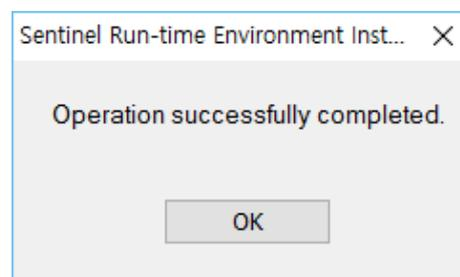

Figure 2.17 Dongle Driver Installation
- If the dongle driver is installed successfully, a message box appears as shown in Figure 2.17.